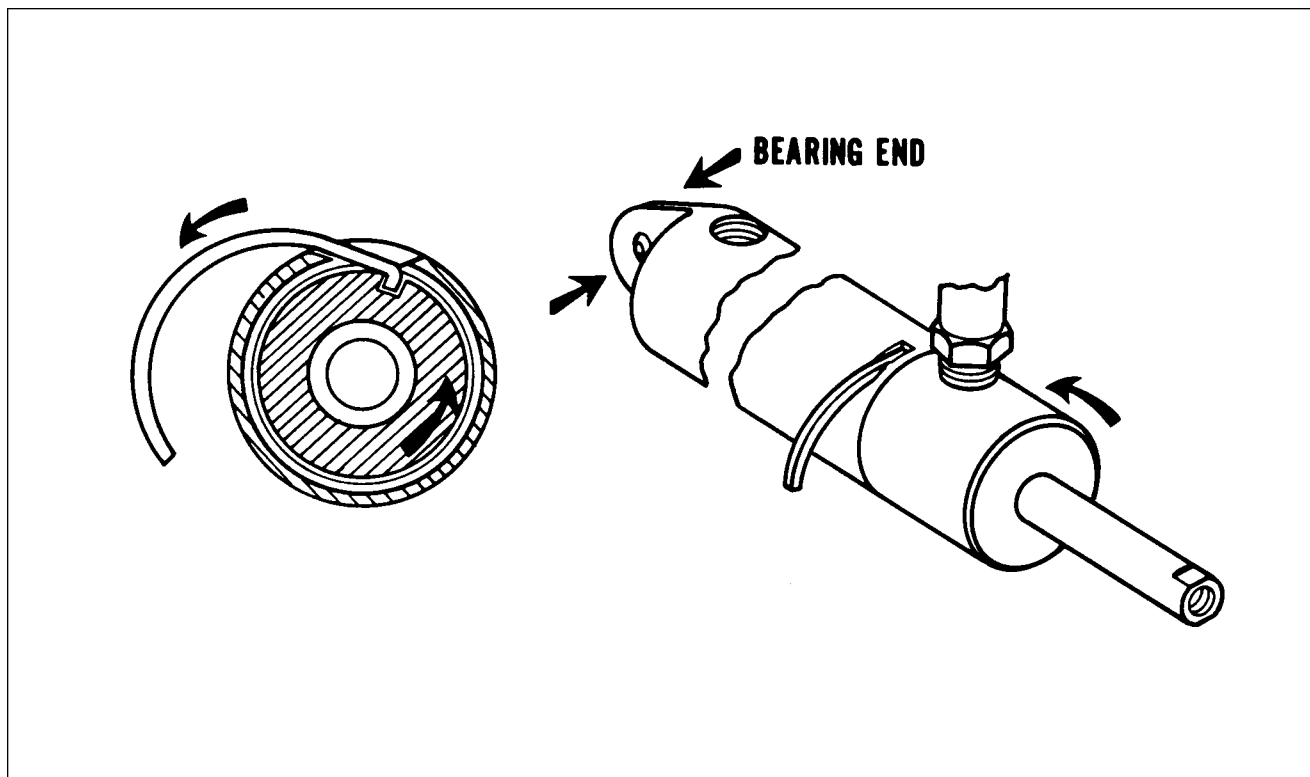
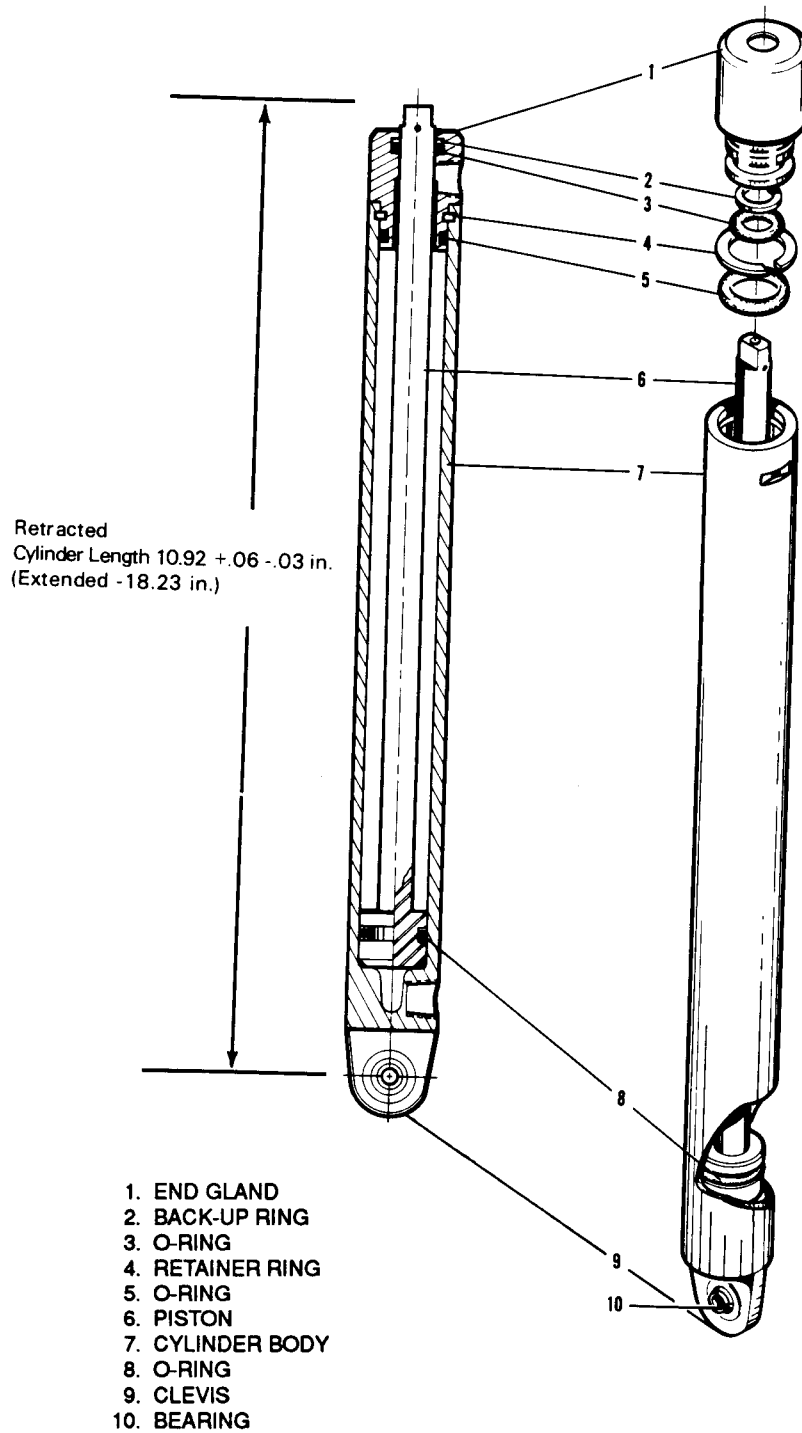

Figure 6-8. End Gland Locking Device
Figure 6-9. Main Gear Actuating Cylinder
**6-23. DISASSEMBLY OF MAIN GEAR ACTUATING CYLINDER. (Refer to Figure 6-9.)**
- a. With the cylinder removed from the airplane, push the piston rod (6) (by hand) toward the clevis (9) to remove oil from the unit.
- b. Put clevis (9) only in a soft jaw vise and clamp against the clevis bearing (10).
- c. If no pipe fitting is installed in the port of the end gland (1), install a fitting (1/8-27) into the port. This fitting need not be tight as it will be used for leverage only.
- d. Rotate the gland (with use of fitting) until the end of the gland lock ring (4) shows in the slot in the cylinder body (7). Reverse rotation of the gland to allow the lock ring to move out of the slot. (Refer to Figure 6-8.) (It may be necessary to give the ring an assist to start out of the slot. If so, insert a strong wire pick or other available tool in the slot to lift up the end of the ring and then rotate gland.)
- e. Pull the piston (6) and end gland from the cylinder.
**6-25. ASSEMBLY OF MAIN GEAR ACTUATING CYLINDER. (Refer to Figure 6-9.)**
- a. Install O-ring (5) on the exterior of the end gland (1).
- b. Install O-ring (3) and back-up ring (2) in the interior of the end gland.
- c. Install O-ring (8) on the body of the piston assembly.
- d. Lubricate the areas around the O-rings with hydraulic fluid, park-o-lube or vaseline, slide the end gland on the piston rod and the piston into the cylinder housing (7).
- e. Insert the hook end of a new long ring (4) (P/N 755 997) in the slot in the cylinder body (7) and slot in the end gland (1). Rotate gland counterclockwise to completely wrap lock ring into assembly.